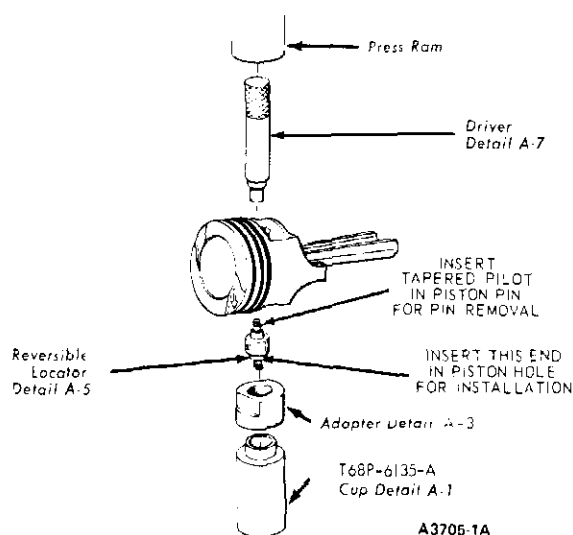

FIG. 48 Removing or Installing Piston Pin
3. Remove the piston rings. Using an Arbor Press and the tool shown in Fig. 48, press the piston pin from the piston and connecting rod.
2. Start the piston pin in the piston and connecting rod (this may require a very light tap with a mallet). Using an arbor press, press the piston pin through the piston and connecting rod until the pin is centered in the piston (Fig. 48).